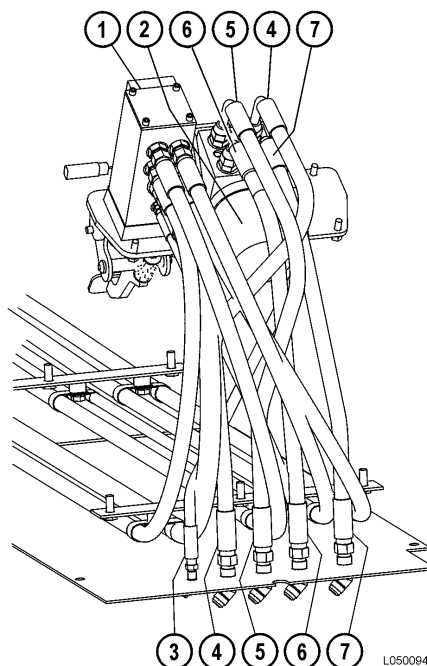

FIGURE 50-2. STEERING CONTROL UNIT HOSES
4. Before disconnecting any hydraulic lines, tag all hydraulic lines for proper identification during installation. Disconnect hydraulic lines (3, Figure 50-2) through (7) at the steering control unit. Plug all hoses.